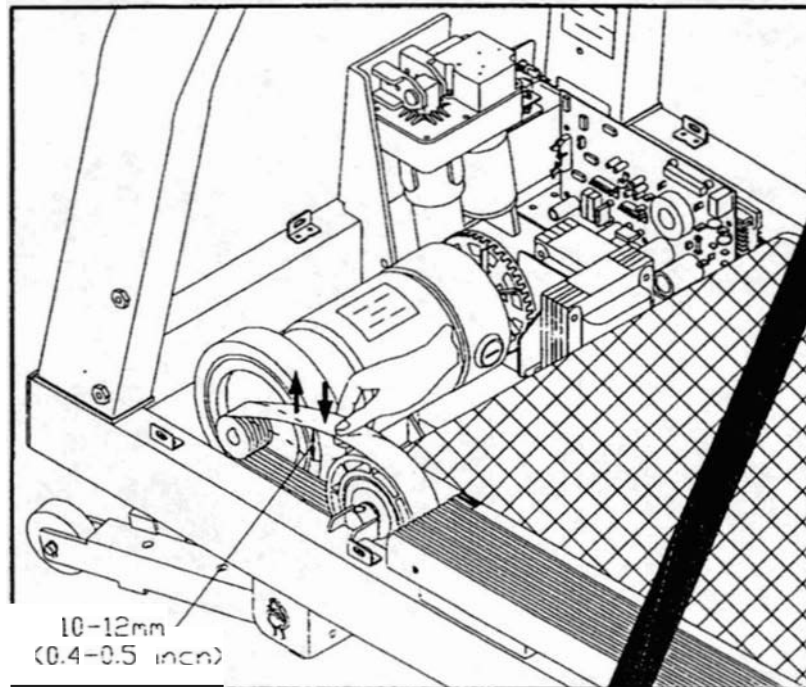

Fig.6
3. Use your hand to check the poly-V belt tension. There should be 10-12mm (0.4-0.5 inch) of play in the belt (see Fig.6)